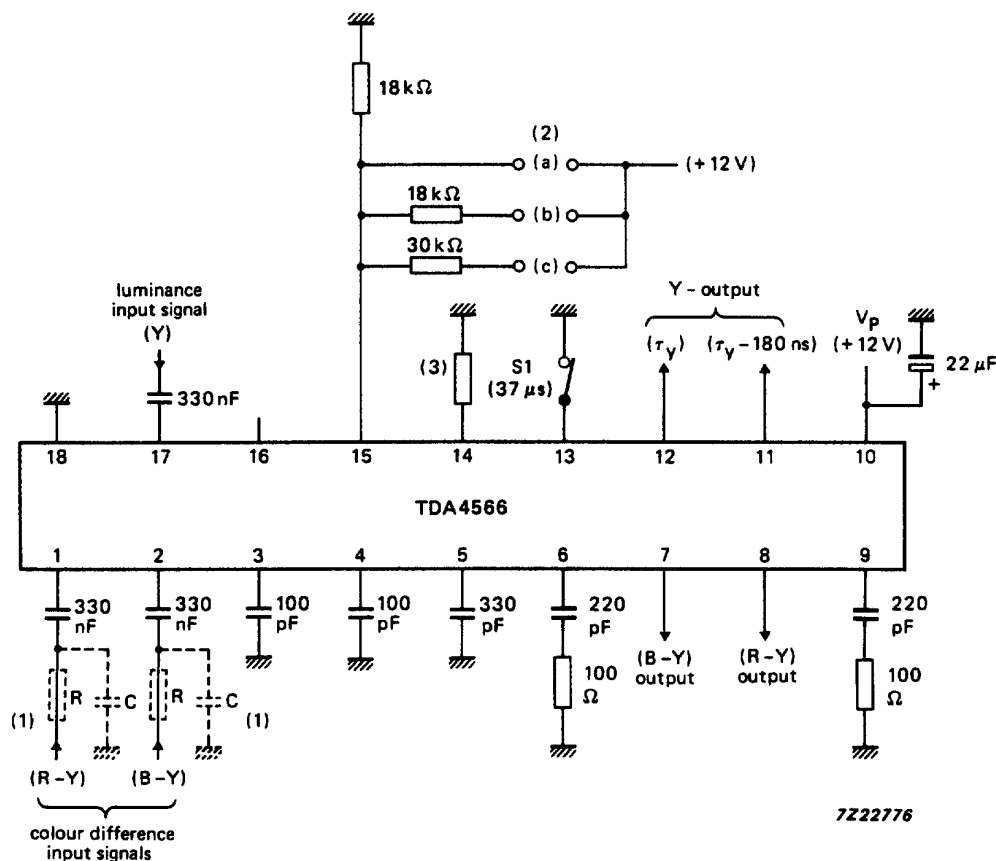

Fig.3 Application diagram and test circuit.
$V_P = V_{10-18} = 12\text{ V}$ ;  $T_{\text{amb}} = 25\text{ °C}$ ; measured in application circuit Fig.3; unless otherwise specified
1. Output signal transient time measured with  $C_{6-18} = C_{9-18} = 220 \text{ pF}$  without resistor (see Fig. 3).